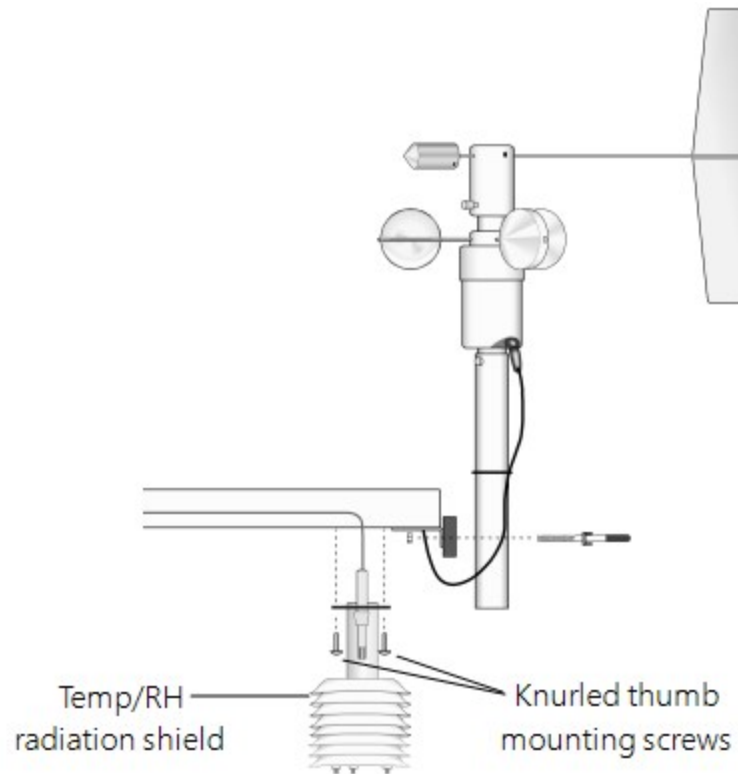

FIGURE 6-11. Wind and RH/temperature sensor installation
Do the following to install the 034B Wind Sensor after the crossarm is securely installed (FIGURE 6-11 (p. 24)).
6. Lightly tighten up the U-bolt clamp nuts (FIGURE 6-11 (p. 24)).